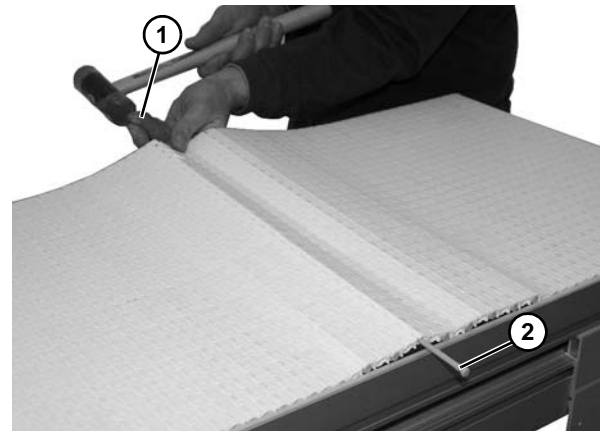

Figure 38
1. Use a punch and hammer to push the belt rod (Figure 38, item 1) out by striking the rod end opposite the retaining head (Figure 38, item 2).